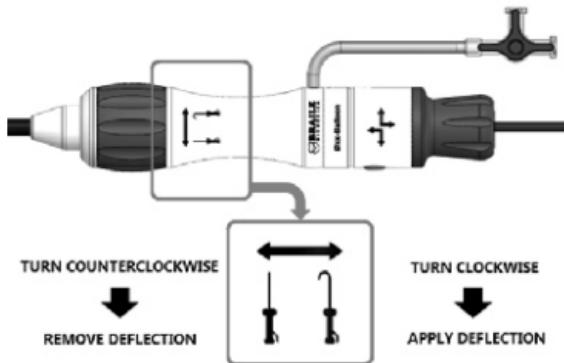

Figure 19: Flex wheel markings indicating the turning direction to remove deflection (counterclockwise) and apply deflection (clockwise).
- G.8. Check the integrity of the deflection system: completely rotate the flex wheel located on the handle, observing the deflectable sheath's deflection. After checking, return the flex wheel to the starting position. Observe the markings near the flex wheel to check the correct orientation to rotate it, as shown in Figure 19.